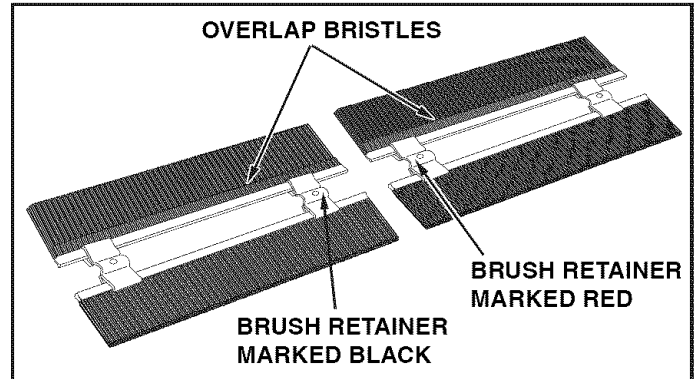

FIGURE 2
STEP 2: (SEE FIGURE 2)
IMPORTANT: The overlap bristles at the bottom of each brush help support the back side of the brush for better sweeper performance. Be sure the sweeper is turned as shown in figures 2 and 3 to correctly assemble the brushes.